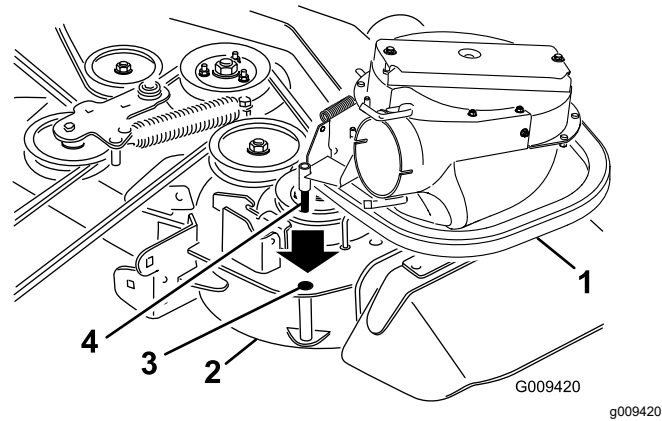
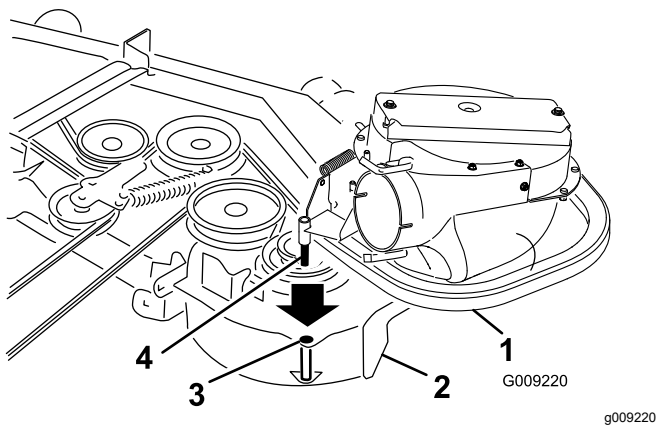

Figure 17
Figure 18
2. Slide the blower-assembly peg into the pivot hole (Figure 17 or Figure 18).